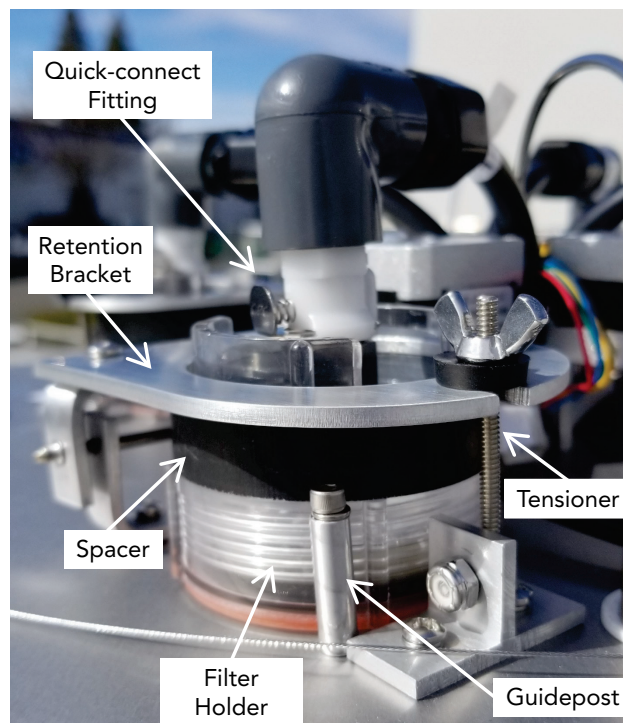

Figure 3. Filter Cassette Holder
- d. Slide the filter holder upwards from the guideposts (see Figure 3).